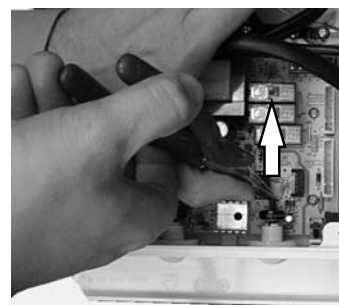

Figure11
- 3) Remove the spindles of the c.h. and d.h.w. temperature adjustment knobs by delicately pulling them with pliers in the direction shown by the arrow in Figure 11.